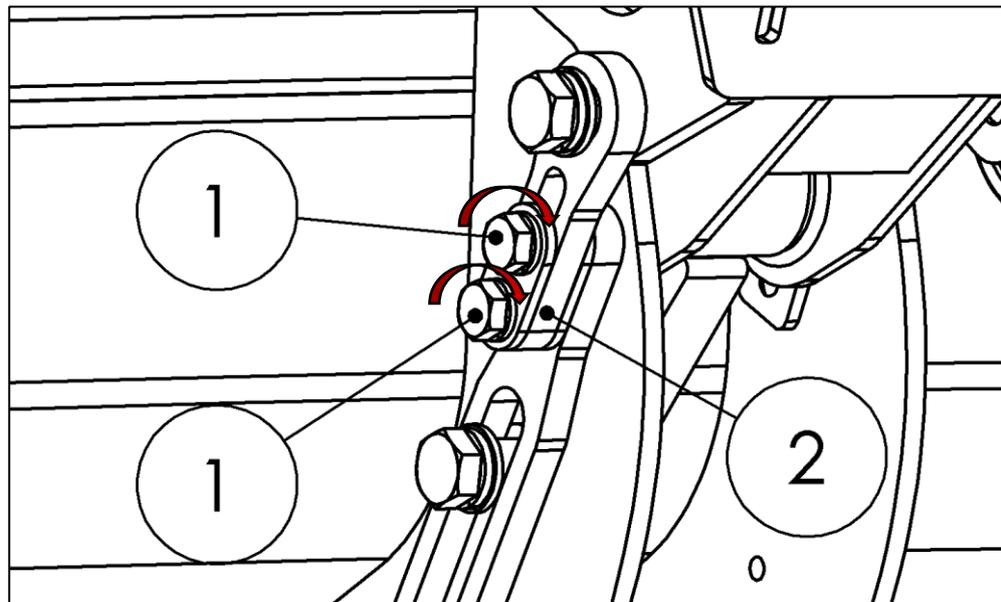

Fig. 83
- Retighten the 2 screws (1) on the clamping plate (2) on the platform stop to a torque of 195 Nm (see Fig. 83).